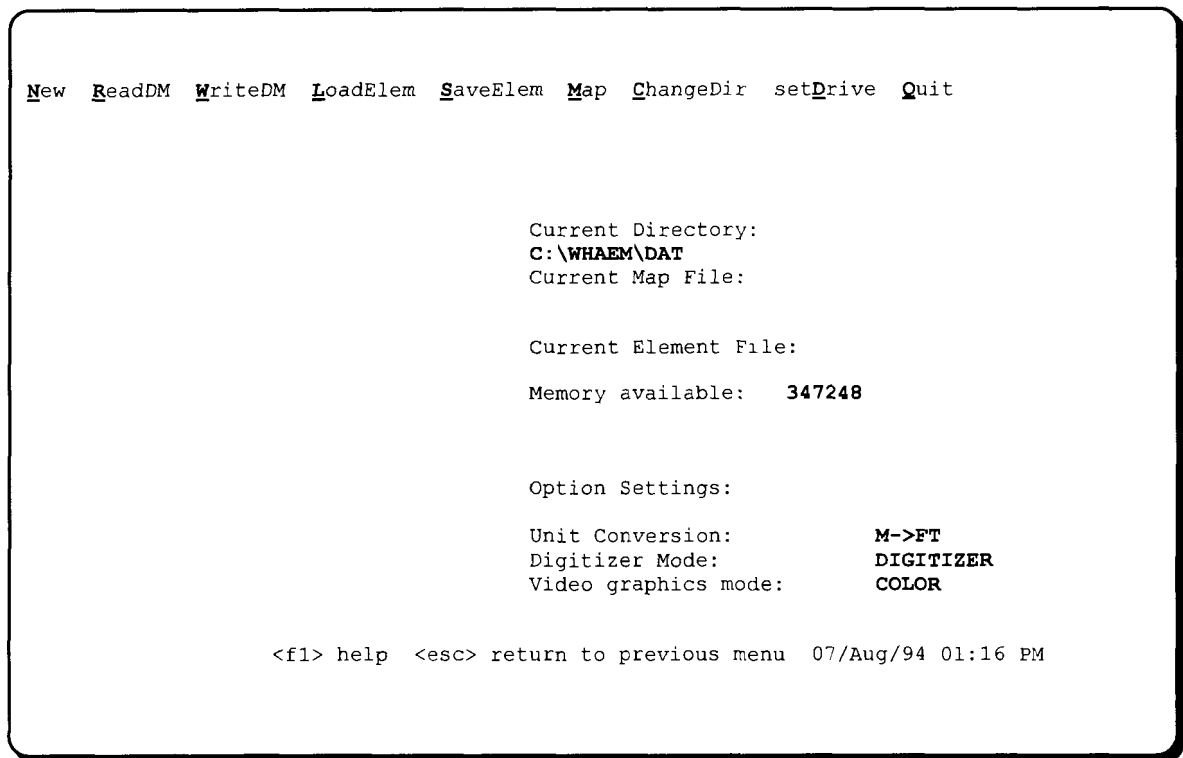

Figure 5 GAEP File Submenu.
- Select the File module from the main menu, either with the mouse or the <F> key, and the File Submenu will appear (**Figure 5**).